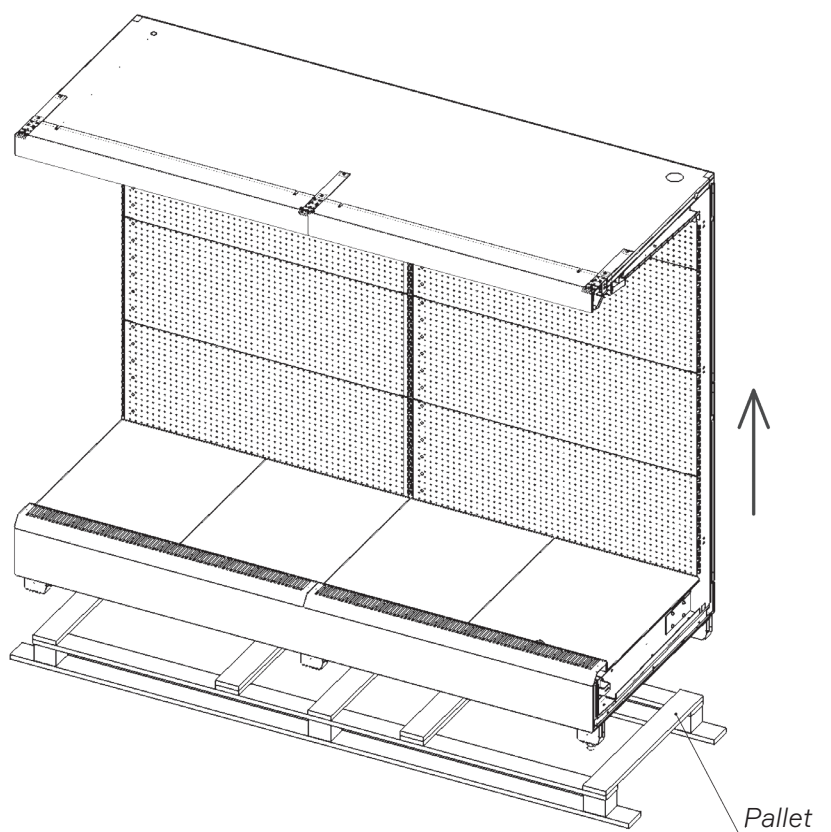

Fig. 12. Remove the multideck from pallet
- **remove the multideck from the pallet (Fig. 12);**